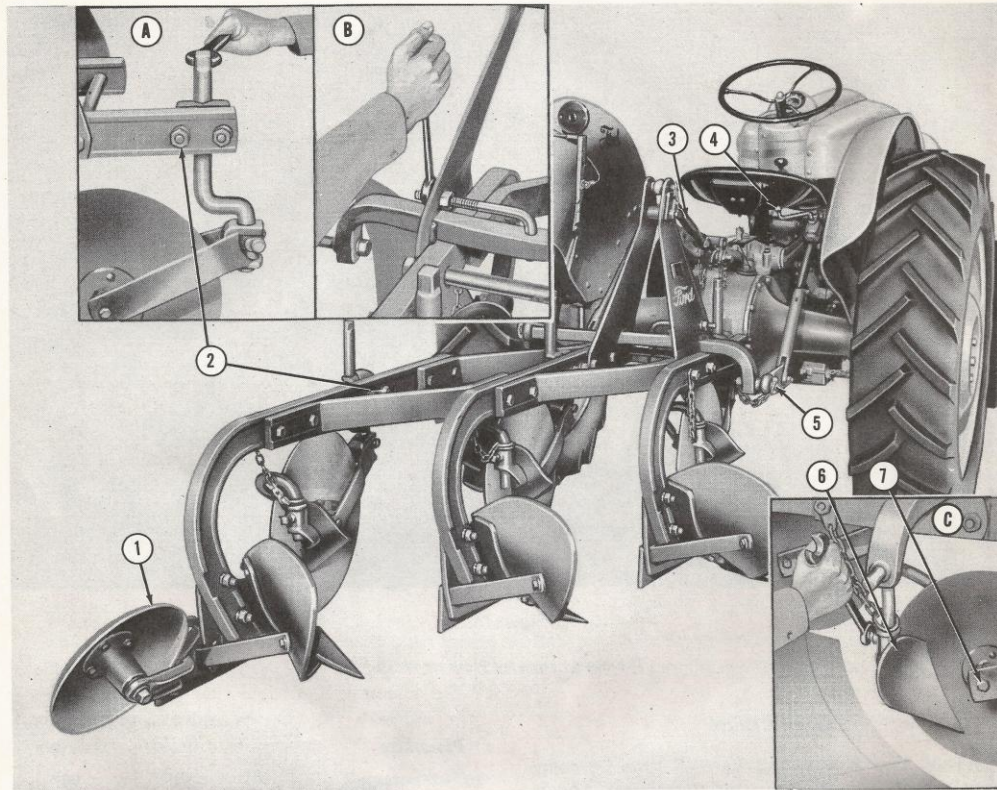

Figure 3
ing arm as shown in the insert "B", Figure 3. This adjustment on the arm slides the drawbar laterally in the "A" frame.
Side Tilt: The plow side tilt is adjusted by turning the leveling crank (4), Figure 3, which raises or lowers the tractor right hand lift link (5). This adjustment is necessary to level the plow and to set the plow at an
Rolling Landside: To adjust the rolling landside (1), Figure 3, loosen the two plow bolts which hold it to the sliding landside. Turn the adjusting bolt until the rolling landside is set from $\frac{3}{8}$ to $\frac{1}{2}$ inch below the lower edge of the sliding landside and secure with the locknut. Tighten the nuts on the plow bolts securely. This location should be checked in operation to assure proper adjustment.
Bottom Pitch: For normal conditions, the tractor adjustable upper link (3), Figure 3, should be set so that the rolling landside lightly touches the furrow bottom. In exceptionally loose soil the adjustable upper link may be lengthened, and in extremely hard soil conditions, the link may be shortened, to help increase penetration. However, when the top link is adjusted, the plow must be releveled.
approximately $1\frac{1}{4}$ inches above the nearest point of the plow bottom. Set the coulters just deep enough to cut the trash. Notched coulters are sold separately and are recommended for plowing in trashy and stony ground. The horizontal setting of the coulters blade is usually about $\frac{3}{4}$ of an inch to the left of the moldboard shin. Loosen the nuts (2), Figure 3, and set the coulters stem with a plow wrench as shown in the insert "A", Figure 3. Tighten the U-bolt nuts (2) securely.
Coulters Bearings: The coulters have cone type bearings with white iron male outer cones and chilled grey iron mating cones. Adjust the nut on the bolt (7), Figure 3, to take up excess play and secure with the locknut.
Jointer: The jointer (6), Figure 3, should be set with the point lightly touching the coulters blade. Jointers
should be set to cut from one to three inches deep for better trash coverage. To adjust, loosen the set screw on the jointer arm collar as shown in the insert "C," Figure 3.
When making headland furrows, the plow should be tilted to the left with the leveling crank (4), Figure 3. The headland furrow should be turned toward the area to be plowed. Allow adequate room for turning between fence and headland furrows.